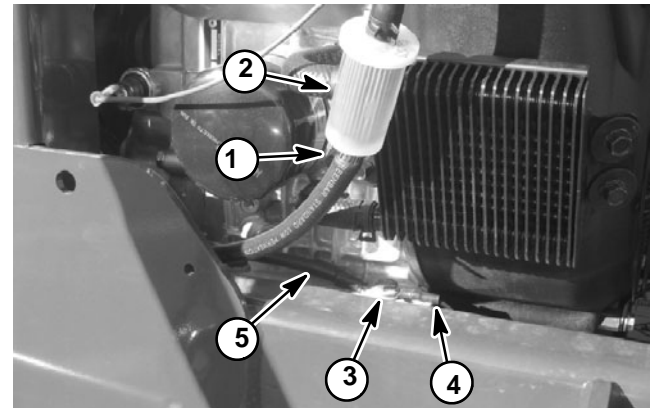

Figure 12
8. Loosen hose clamp that secures fuel hose to fuel filter inlet (Fig 12). Remove fuel hose from fuel filter. Plug fuel hose to prevent leakage and contamination. Make sure to clean up any spilled fuel. Position disconnected fuel hose away from engine.
10. Remove muffler guard (item 32), belt guard (item 26) and belt cover (item 30) (see Drive Belt Covers in the Service and Repairs section of Chapter 6 - Chassis). Make sure that tinnerman nuts (items 23 and 40) remain positioned correctly for assembly purposes.
13. Remove four (4) cap screws, eight (8) flat washers and lock nuts that secure engine to machine. Note that negative battery cable and wire harness ground wire are secured with the front, left corner screw (Fig 12). Also, at that location, retrieve internal lock washer from between engine and wire connectors.
A. Make sure that negative battery cable, wire harness ground wire and internal lock washer are installed with the front, left corner screw (Fig 12).
B. The rear, left corner screw should be installed up through frame and engine. The other three (3) screws should be installed down through engine and frame.
15. Remove plug installed in fuel hose during engine removal process. Connect fuel hose to the fuel filter inlet and secure with hose clamp (Fig 12).